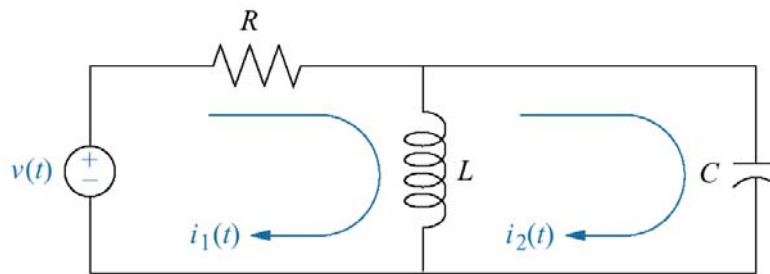

Figure 2: A two-loop electrical system
- [c] Find the transfer function between output and input for a two-loop electrical system as shown in Figure 2. Given  $R = 5 \text{ Ohm}$ ,  $C = 2 \text{ F}$ ,  $L = 4 \text{ H}$ , and  $V(t) = 10 \text{ V}$ .